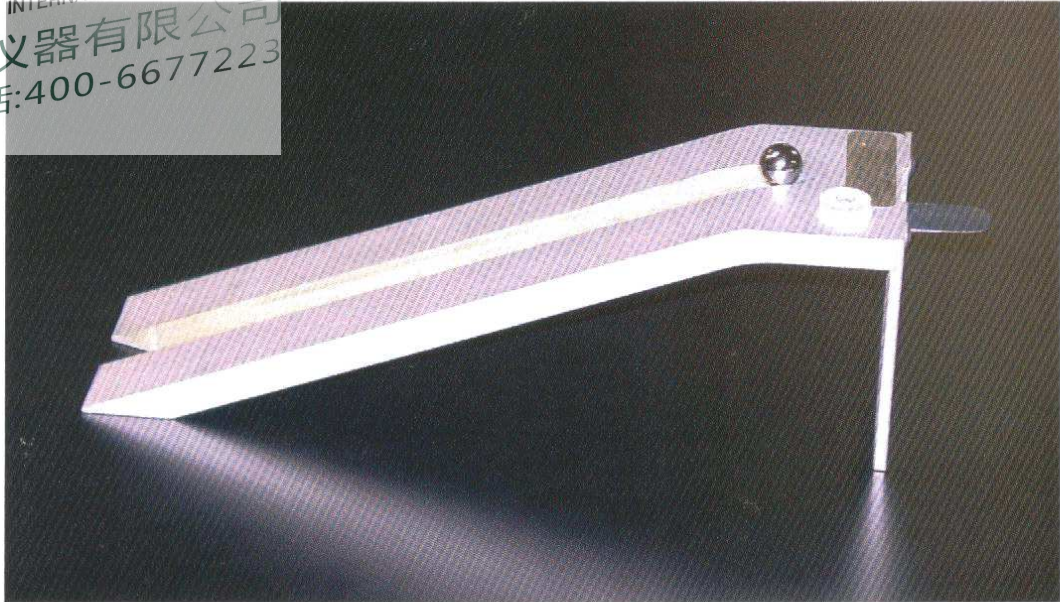

Figure 1. Rolling ball apparatus components.
4.1 Rolling ball test apparatus. See Appendix B. See Figures 1 and 2.